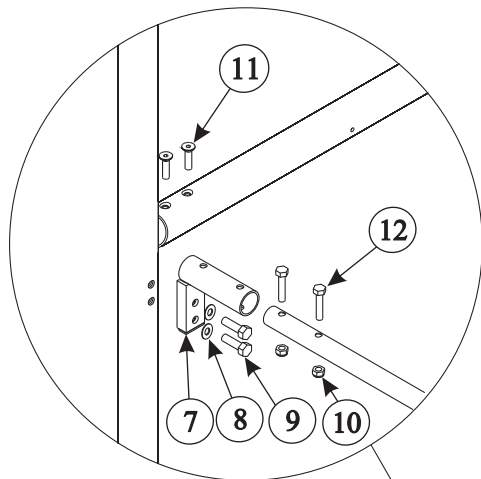
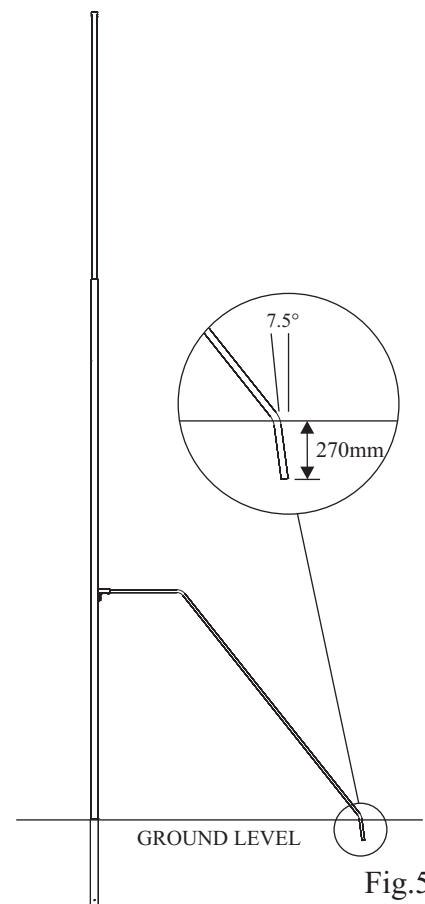

Fig.1
Fig.5
2 Lay the Crossbar (3) and the Bottom Uprights (1,2) on the ground making sure that you have the spigots facing in and the bolt holes for the net support bracket facing up. This will ensure that the correct uprights are in place. Insert the Crossbar onto the spigots on the uprights and secure using Bolt (11). Then attach Net Support Bracket (7) to the Uprights as shown in Fig. 1. Whilst the goal is on the floor screw the net hooks (13) into the crossbar.
4 Once the goals are erected, insert Net Support Tube (5) into its bracket. Before attaching, mark the ground where the Net Support Tube rests. A small hole needs to be created at this marked point in order for the Net Support Tube to be inserted. This hole needs to be 270mm deep, angled into the ground at around 7.5 degrees. Shown in Fig. 5. Once hole is created place Net Support Tube into the hole and attach to bracket as shown in Fig. 1.